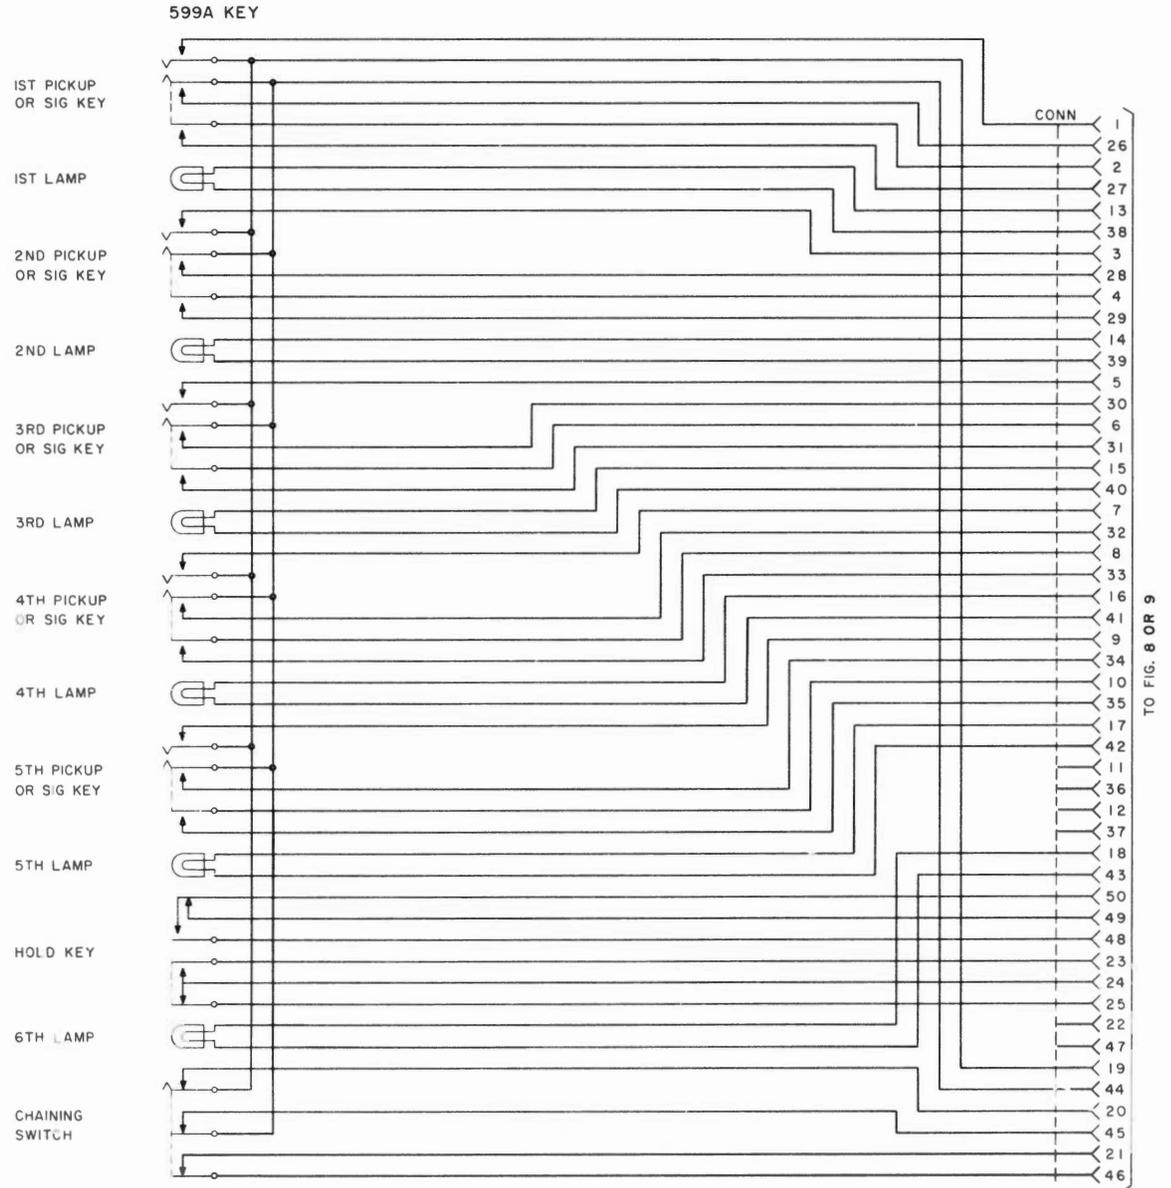

Fig. 1 - 599A Key
- Provide both old and new circuit designation from apparatus cabinet to keys in 634- and 635-type CALL DIRECTOR sets using either Manufacture Discontinued (MD) or even-count color-coded cords and connector cables.
1.03 To facilitate the use of this practice, the circuit leads follow a straight line pattern as near as possible from the apparatus cabinet to the key. Key connector pins (Fig. 1 through 6) are so placed in this section to overlay into corresponding module plug pins in the CALL DIRECTOR sets. (See Fig. 8 and 9.)
Fig. 1 is a 599A key.